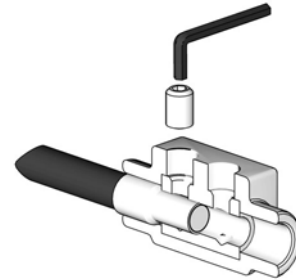

**FIG. 8**
- c. Remove ferrule and apply oxide inhibitor to bare wire. See FIG. 8.